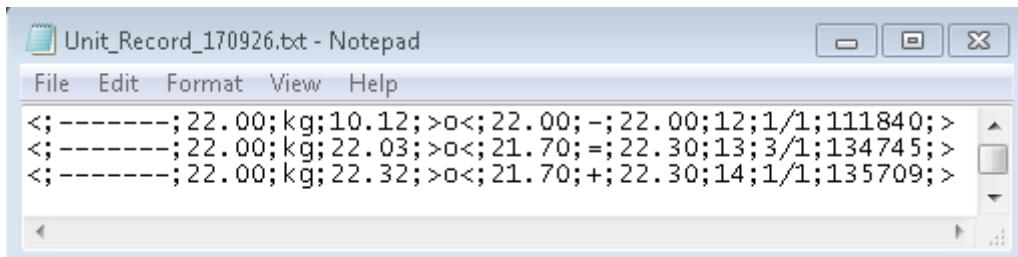

Figure 7: Sample of Unit Record String Data File
A 22.32 kg overweight dump was recorded at 13.57.09 (PM) in file Unit_Record_170926.txt and illustrated in **Figure 7**.